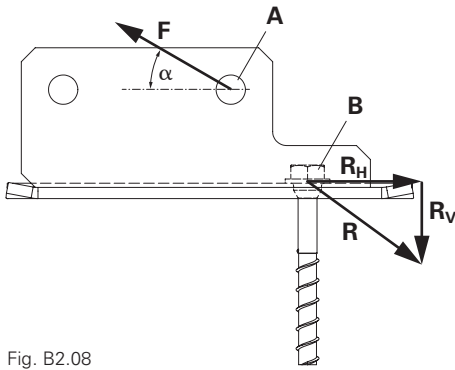
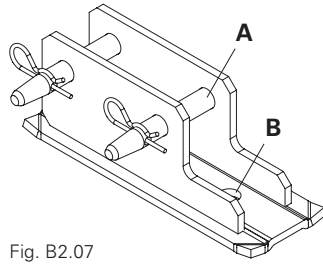

Fig. B2.08
Fig. B2.07
(Fig. B2.07)
Fit the push-pull prop and the Anchor Bolt in the positions shown (A) and (B). (Fig. B2.07 – Fig. B2.08)